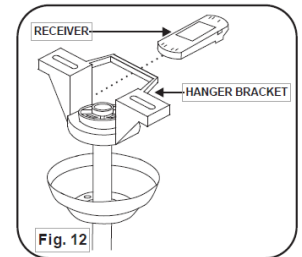

Fig. 12
Step 1. Attach receiver to the motor housing, using the double sided tape pre-attached to the receiver. (Fig. 12)